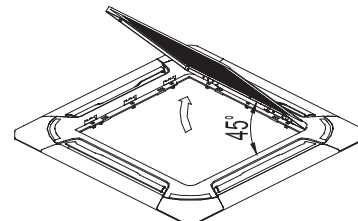

Fig.23
2. Draw the grill up to an angle of about 45, and remove it.(Fig.23)